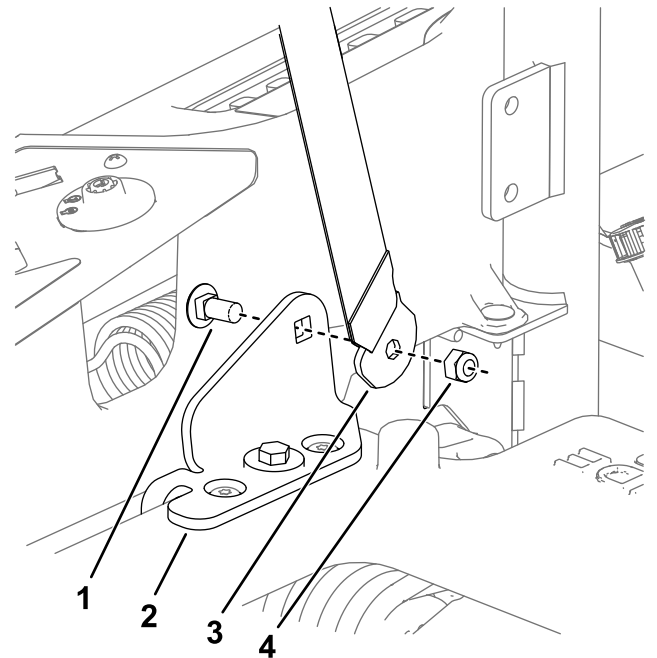

Figure 11
5. Install the seat belt buckle and tongue to the inside of the seat belt brackets with 2 carriage screws (7/16 x 1 inch) and 2 locknuts (7/16 inch) as shown in Figure 11.